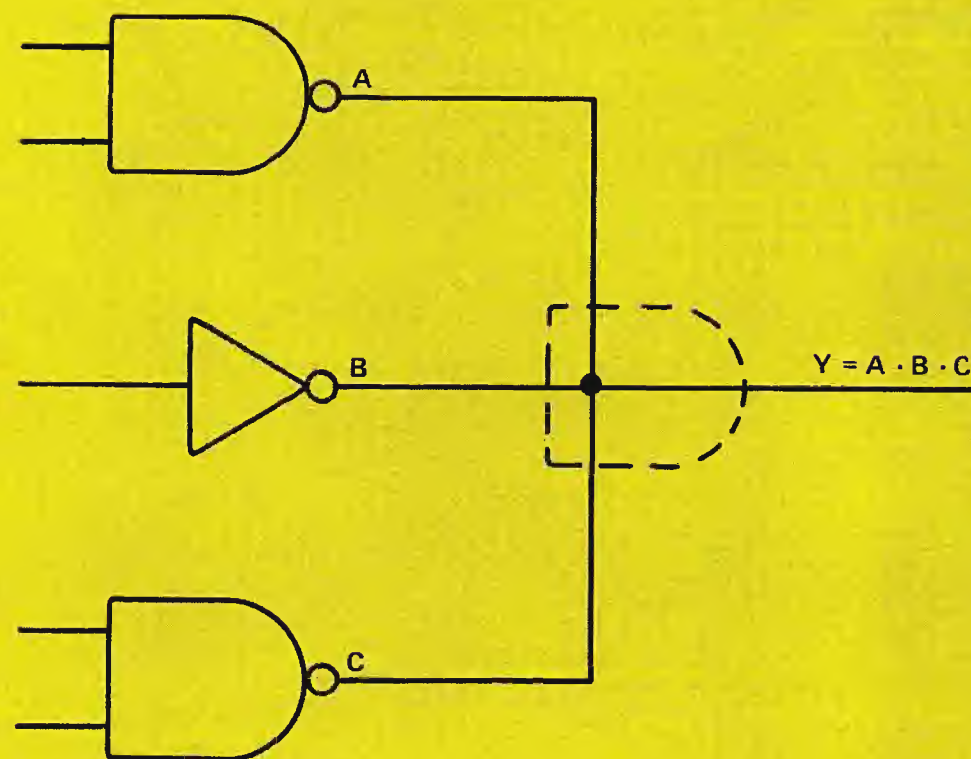

Fig. 8. "Wired AND" Gate Created by Joining the Output Terminals of DTL Gates
8. As shown in Fig. 8, a phantom AND gate (known as a "wired AND") is created at the junction point when the outputs of two or more DTL gates are connected together. The common point can be HIGH only if all gates tied together are HIGH; a LOW level at any of the gate outputs will pull the common point LOW. (In negative logic, the same connection point would function as an OR gate, and some instruction books follow an unfortunate custom in referring to DTL phantom gates as "wired OR's", even though the rest of the equipment is presented as positive logic.) Such "wired AND" gates can be advantageous in two ways—they are very inexpensive, and they introduce no significant propagation delay.